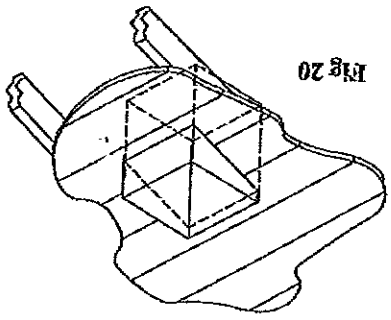

Fig 20
6. Run the Support Box through the roof as shown in Figure 20, and place it so that the bottom of the Support Box protrudes at least 2 inches below the finished ceiling. Align the Support Box vertically and horizontally with a level. Temporarily tack the Support Box in place through the inside walls and into the roof sheathing.